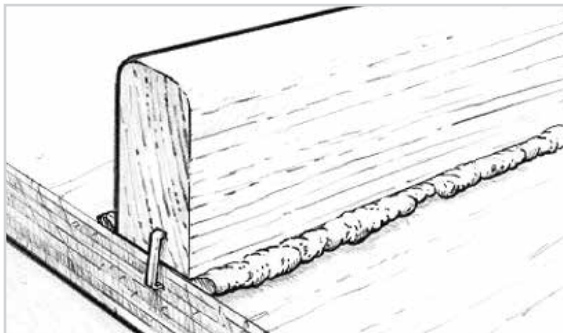

Figure 16-10 A small amount of epoxy will squeeze out of the joint with just the right amount of thickened mixture and clamping pressure.
3. Clamp components. Attach clamps as necessary to hold the components in place. Use just enough clamping pressure to squeeze a small amount of the epoxy mixture from the joint, indicating that the epoxy is making good contact with both mating surfaces (Figure 16-10). Avoid using too much clamping pressure, which can squeeze all of the epoxy mixture out of the joint.